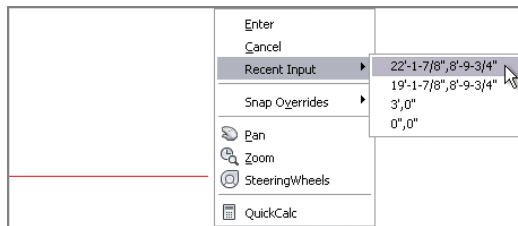

FIGURE 2.15 Drawing a new line from the end of the previous line
4. Right-click in the drawing canvas, and hold (for longer than 250 milliseconds) to open the context menu. Select the first coordinate value from the Recent Input menu (see Figure 2.15). You will use the last point entered as the first point in a new line. A rubberband connects the right end of the horizontal line to the cursor.